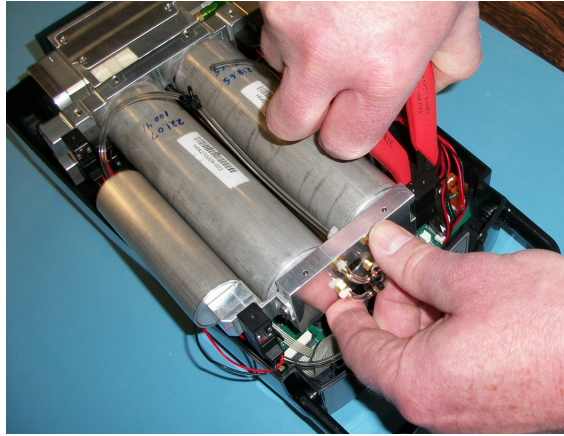

Figure 5.13
11. Using needle nose pliers, disconnect all the valves from the circuit board, carefully noting where each valve is connected. Do not disconnect by pulling on the wires. (See Figure 5.13 and 5.14.)